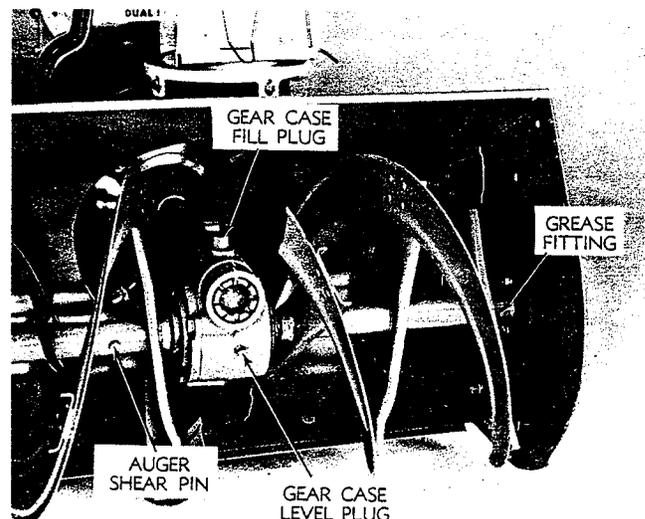

FIG. 9
- A. Drive Gears — One fitting on left side behind wheel. (Fig. 9). Give this fitting about 10 shots of grease.
- B. Auger bearing support — two fittings, one on each end of auger shaft. (Fig. 9). Grease until the grease comes out of bearings. Wipe off excess grease. Grease with pressure type gun.
3. Gear case — Although the gear case is filled at the factory, be sure to check level before first use each season and periodically during the season. Keep it full to bottom of level plug hole with SAE 30 oil. Remove vent plug to fill. (Fig 9).
If you should happen to shear this pin, there are 2 extra pins in the parts bag that came with your Snow Throwing. (Fig. 9). Do not use a substitute for shear pins.